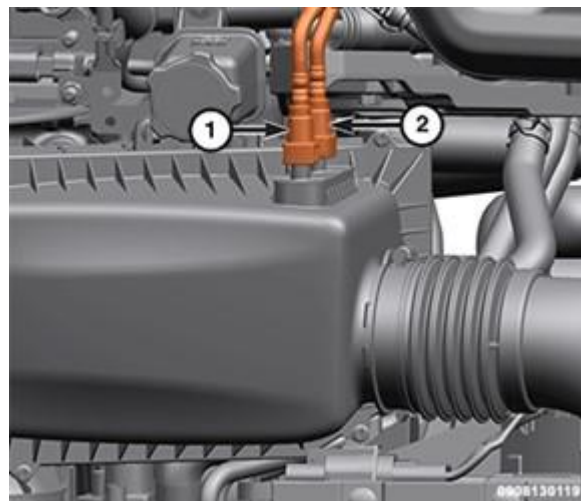

Figure 6 – Air Cleaner Cover
7. Disconnect the vacuum boost hose quick coupling (1) from the air cleaner body cover (Figure 6).
8. Disconnect the fuel vapor purge hose quick coupling (2) from the air cleaner body cover (Figure 6).